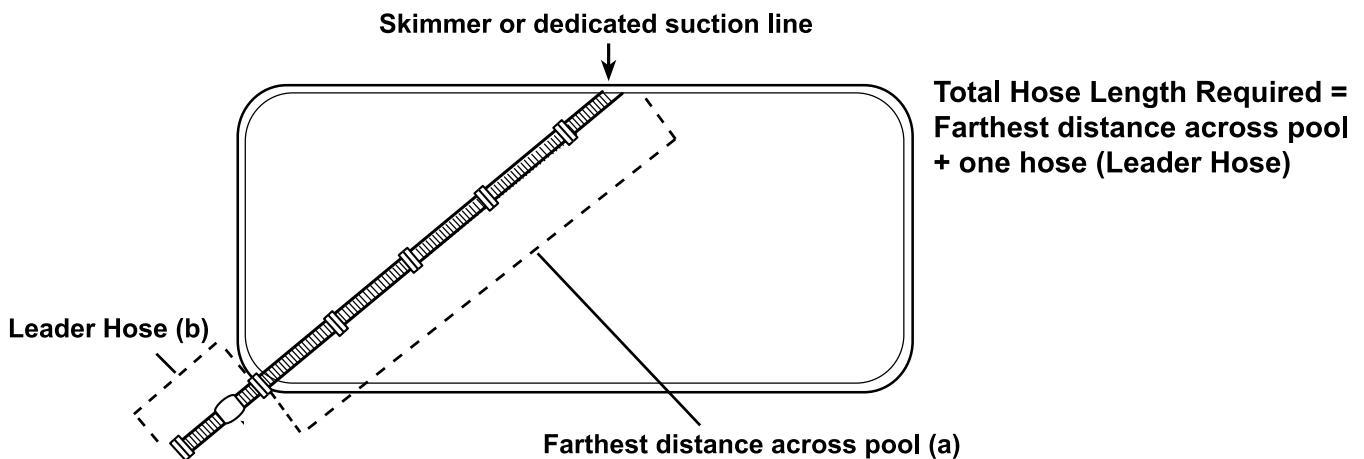

Figure 5
1. Measure enough hose to just reach the farthest point of the pool from the skimmer or dedicated suction line. Remove any additional hose sections, as necessary. See (a) in Figure 5, below.
2. Next attach the leader hose at to the end where the cleaner head will be connected. See (b) in Figure 5, below. The extra length allows the cleaner to reach the far point in the pool if a loop forms while in operation.